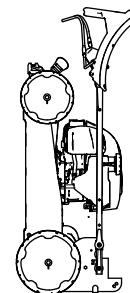

Figure 26
6. Lift the front of the machine by the handle and move it into a storage space (Figure 26).